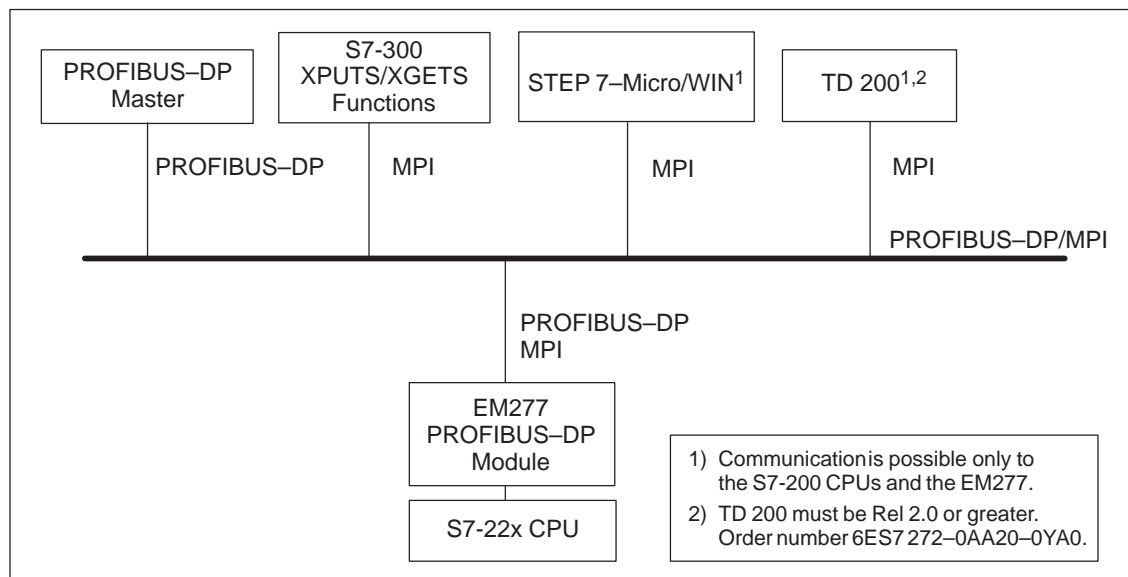

Figure 6 PROFIBUS–DP/MPI Network
A maximum of six connections (six devices) in addition to the DP master can be connected to the EM277 PROFIBUS–DP module. One connection is reserved for a programming device (PG) and one is reserved for an operator panel (OP). The other four connections can be used by any MPI master. In order for the EM277 PROFIBUS–DP module to communicate with multiple masters, all masters must be operating at the same baud rate. See Figure 6 for one possible network configuration.
Figure 6 shows the PROFIBUS–DP MPI Network.